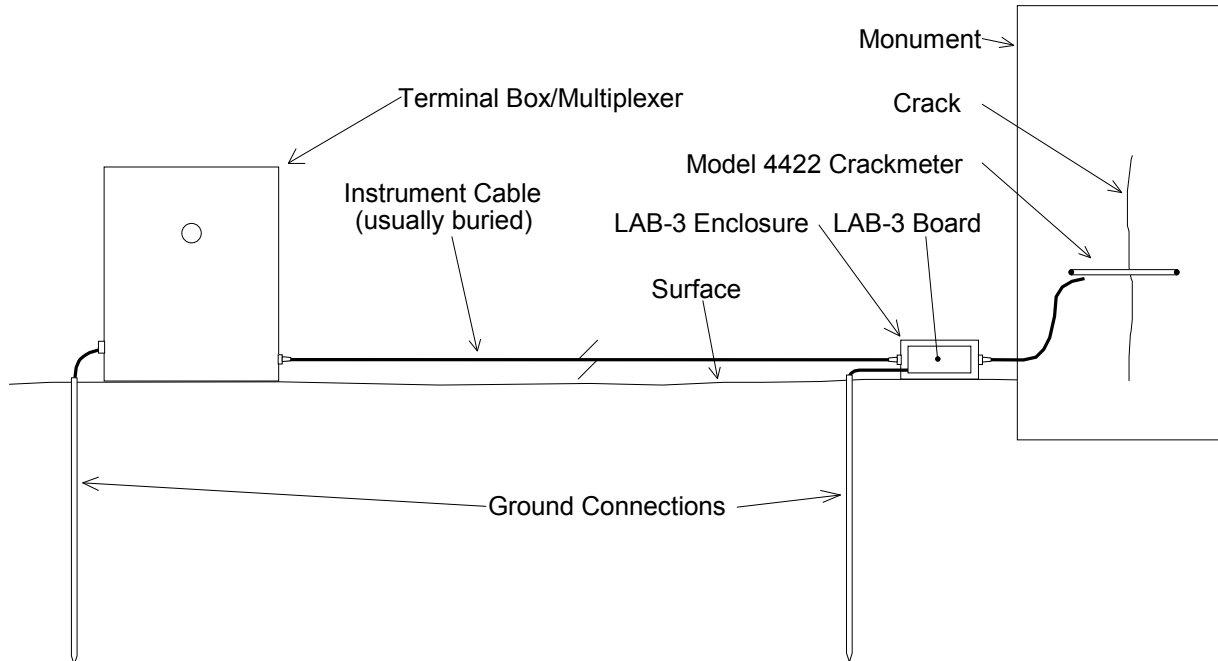

Figure 4 - Lightning Protection Scheme
- Lighting arrestor boards and enclosures are also available from Geokon. These units install where the instrument cable exits the structure being monitored. The enclosure has a removable top to allow the customer to service the components or replace the board if the unit is damaged by a lightning strike. A connection is made between the enclosure and earth ground to facilitate the passing of transients away from the gauge. See Figure 4.